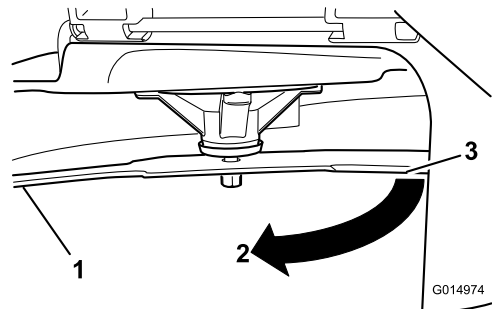

Figure 65
3. Measured distance between blade and the surface (A)
4. Rotate the same blade 180 degrees so that the opposing cutting edge is now in the same position (Figure 65).